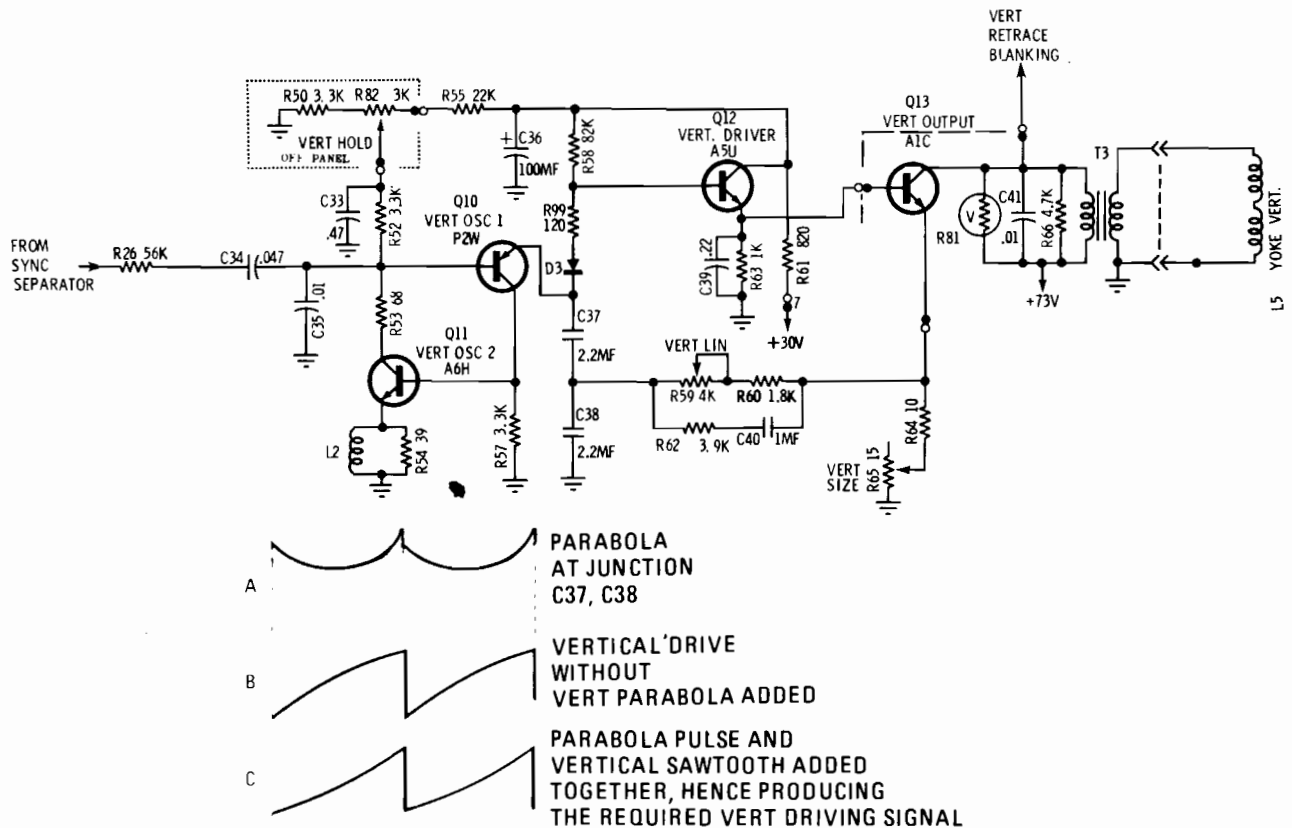

Figure 11. Vertical Circuit
**VERTICAL CIRCUITRY (Figure 11)**